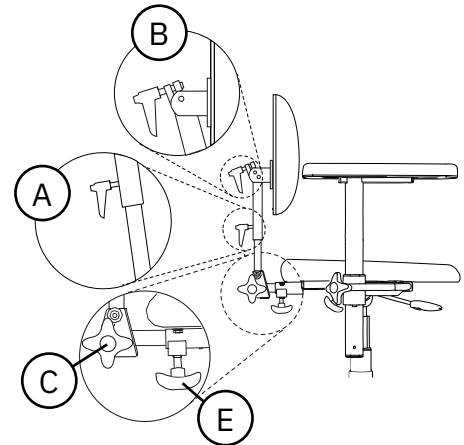

Figure 5.28. Medic backrest mechanism.
Medic can be adjusted in height (A), angle of backrest (B, angle of back recliner (C) and depth (E), see Figure 5.28. The back recliner can be adjusted in the range of 15° forward to 45° backwards.